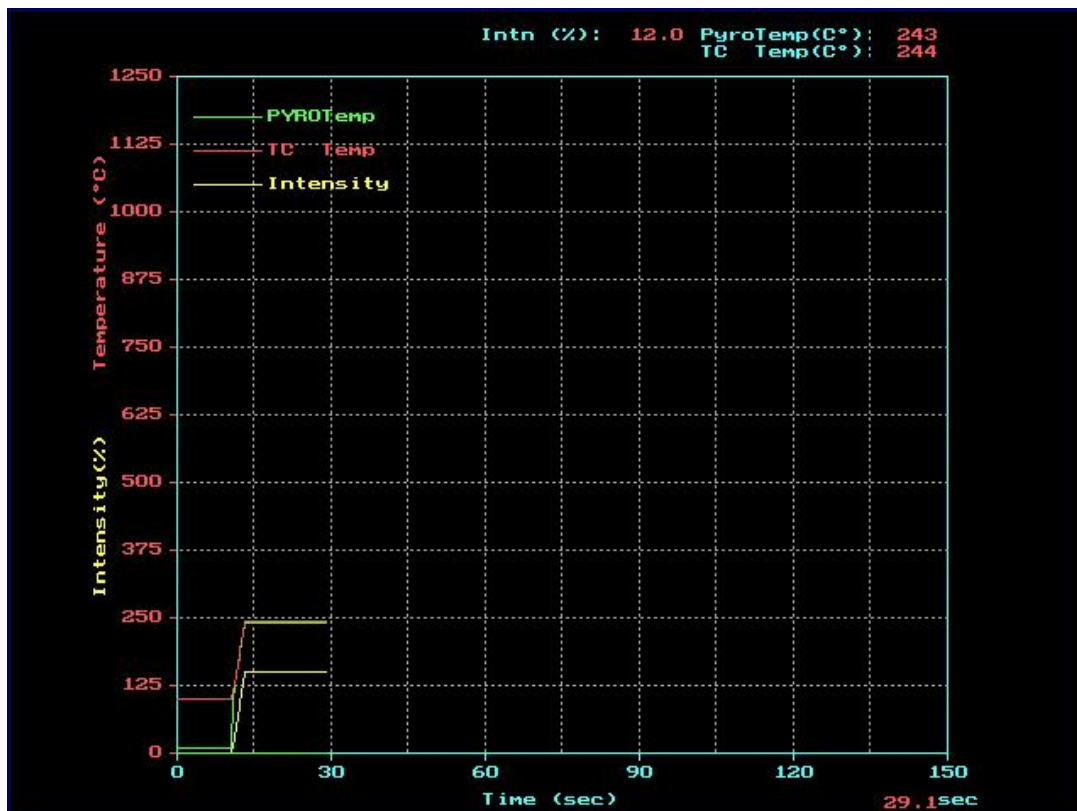

Figure 3-18. Manual Control Screen
2. The *Manual Control Screen* will appear (see Figure 3-18).